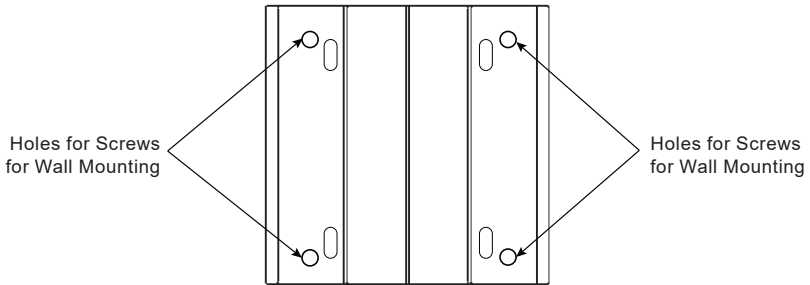

Fig. 17
3. If necessary, you can rotate the mounting bracket in 90° increments to accommodate the final orientation of the transmitter. From inside the enclosure, remove the 4 screws holding the bracket. Rotate the bracket and replace the screws. See Figure 17.